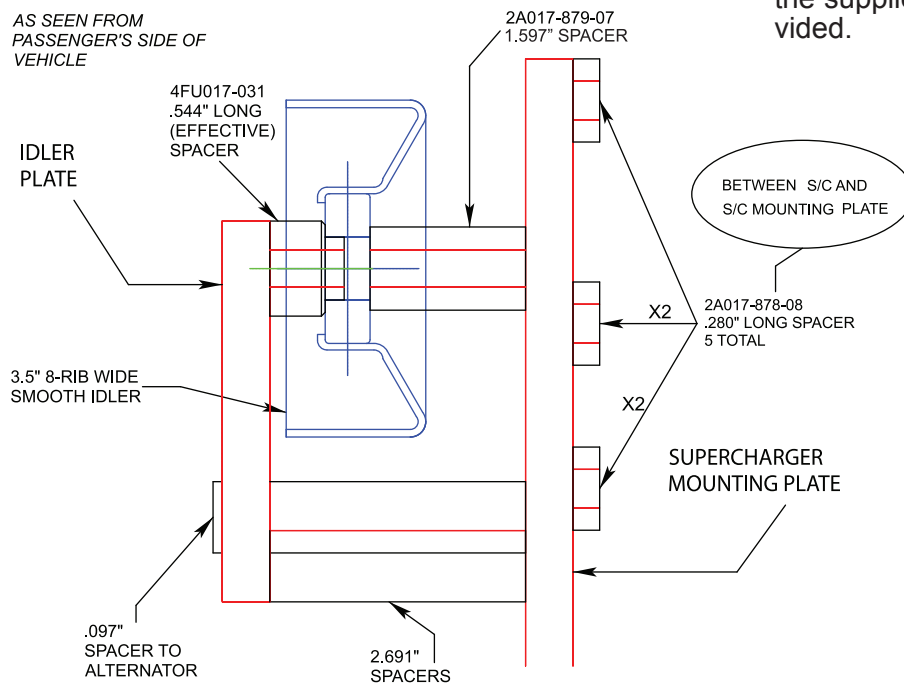

Fig. 2-d
- M. Install the five 3/8-16 x 1.5" supplied bolts and washers through the back side of the mounting plate. Install the five .280" long spacers (2A017-878-08) onto the previously installed hardware. (See Figs. 2-d, 2-g.)